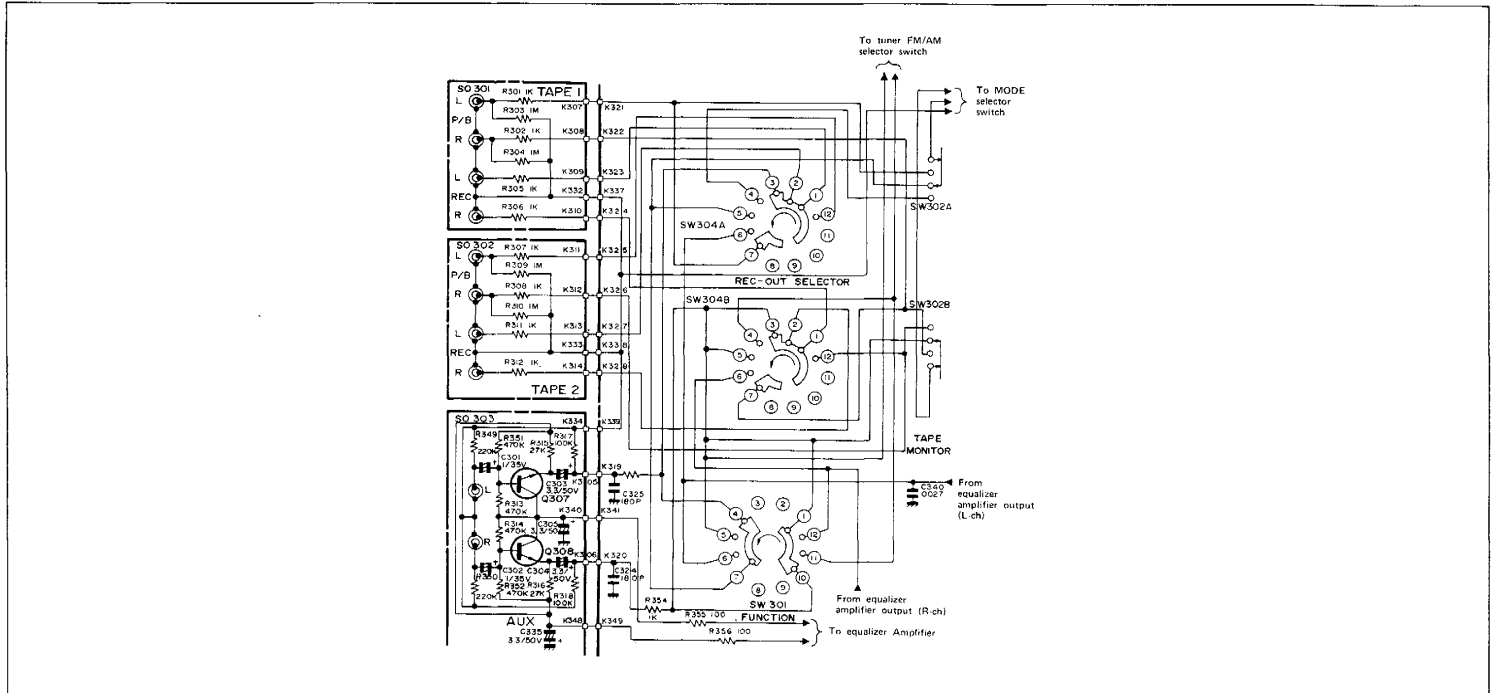

Figure 24-1 RECORDING OUTPUT CIRCUIT
**RECORDING OUTPUT CIRCUIT** (Refer to Figure 24-1 and 24-2)